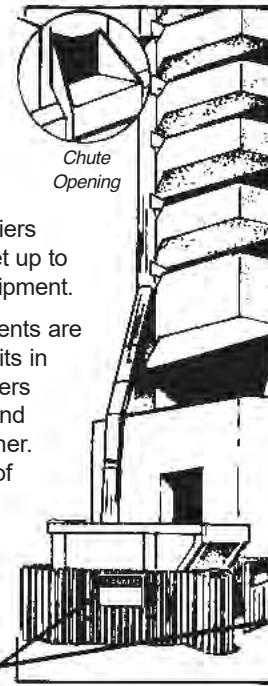

Figure 10
- Do not permit rubbish to fall freely from any level of the project. Lower it by means of a chute or other approved device (Figure 10).